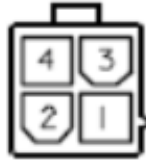

Figure 21. Port numbering scheme for the 4-Pin Connector
1. Cut off the excess red and black VCA wires, leaving about 1 inch exiting from the top of the 4-Pin Connector Holder on the collar. Save this excess for step 2. Strip the free ends and connect the following wires from the VCA to the corresponding terminals of the 4-Pin connector as detailed in the table below (see Figure 21 for the port number scheme of the 4 Pin Connector).